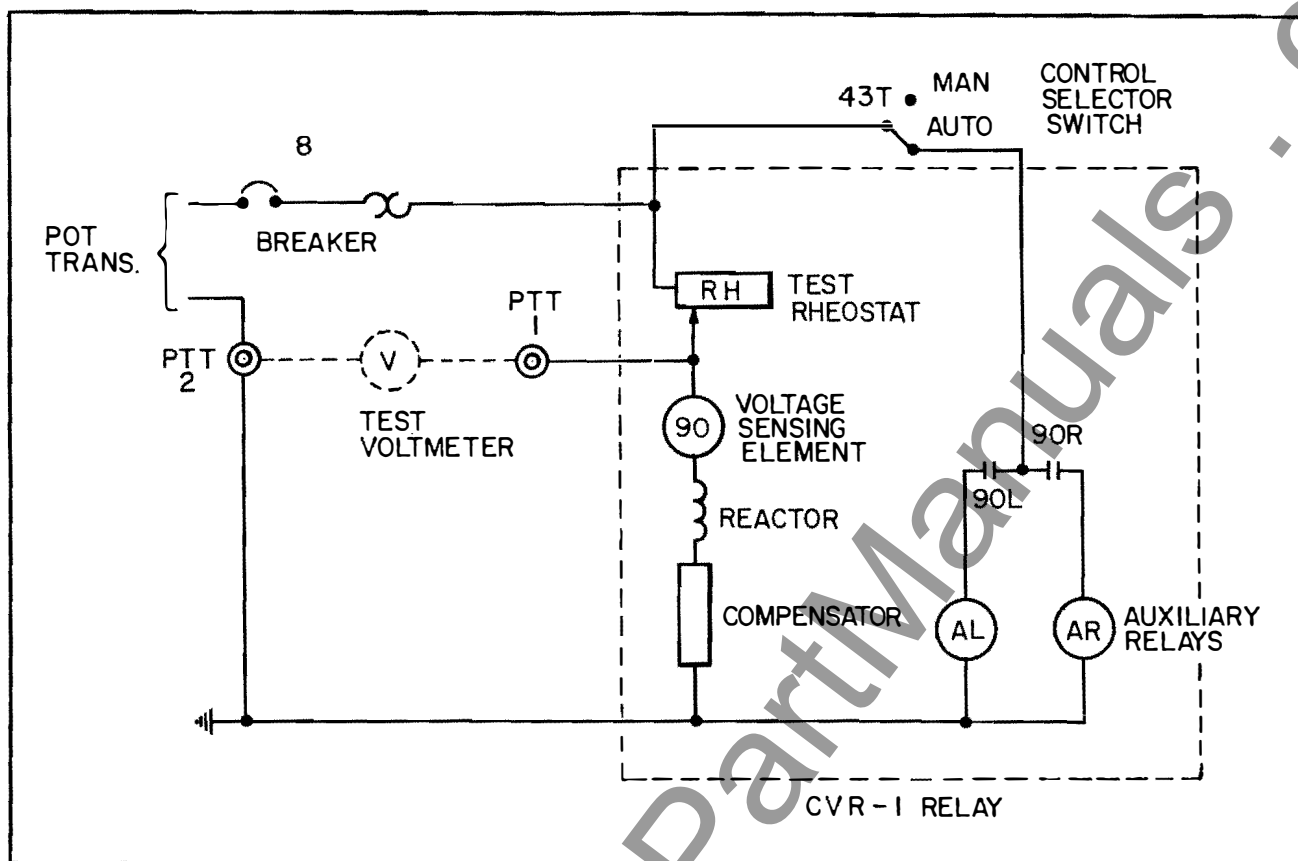

Fig. 5 - Simplified Control Schematic with CVR-1 Relay
For more exact setting a voltmeter of better than 1% accuracy class should be connected from PTT1 to PTT2 as shown in Figure 5. It is convenient to apply an external variable voltage source to PTT1 and PTT2, reading on the voltmeter the voltage at which the 90R and 90L contacts close. If desired, a constant voltage source may be applied between PTT2 (ground) and the load side of the potential breaker on the main control panel. This, in conjunction
A test voltage adjustment rheostat (RH) is located on a control panel inside the CVR-1 case for your convenience. It makes possible setting the relay by using the control voltage with the tap changer energized. Turning the Test Rheostat knob clockwise will adjust the voltage applied to the relay by means of the rheostat which is in series with the control voltage and is located ahead of the test terminals. (See Diagram Figure 5). Proceed as follows: